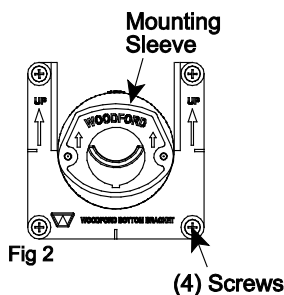

Fig 2
4. Use (4) of the furnished wood screws to secure the Bottom Bracket. Fig 2